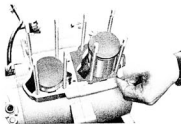

Fig. 4-3-4
- 1) Always use new cylinder base gaskets when overhauling the engine. (Fig. 4-3-4)